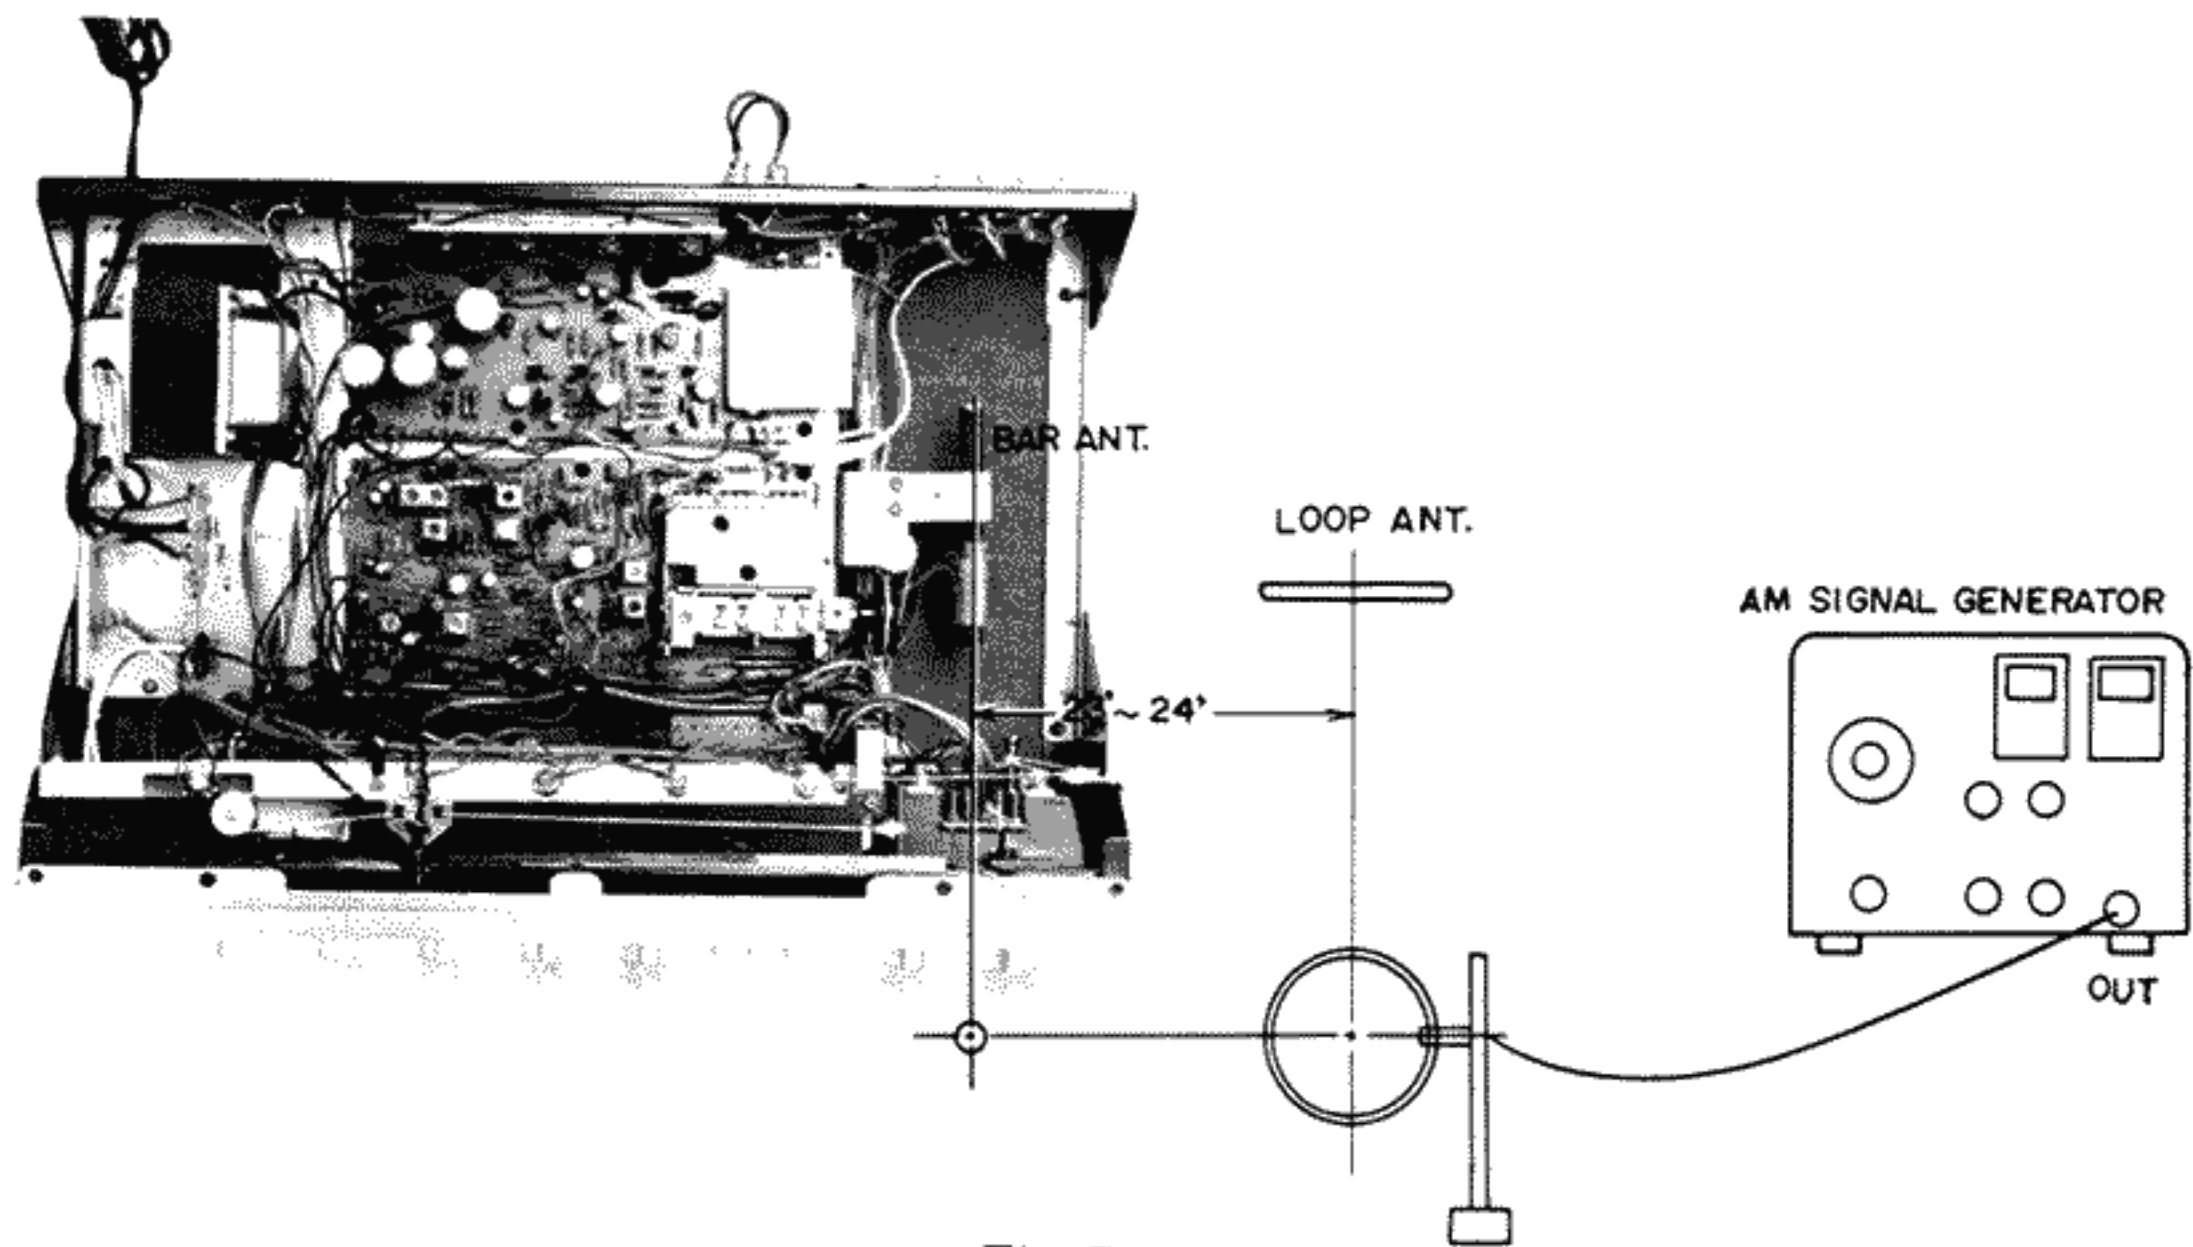

Fig. 7
a) Signal Generator : Fashion loop of several turns of wire (or Loop Antenna) and connect generator across loop as illustrated in Fig. 7. Then set generator to 1700kHz from 455kHz with demodulated 400Hz at 30%.